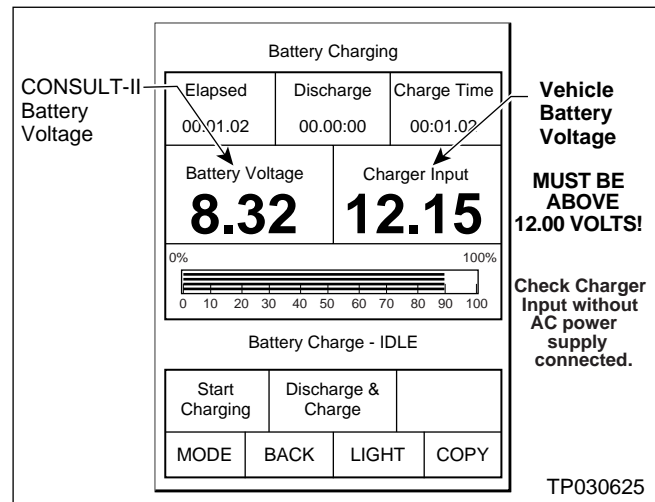

Figure 6
3. Check the CONSULT-II's "Charger Input" reading (see Figure 6).